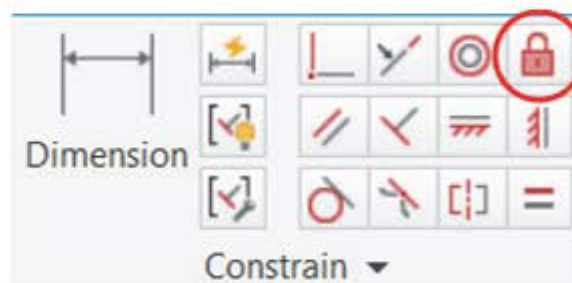

Figure 3–72
8. What is the purpose of the Fix constraint, shown in Figure 3–72?